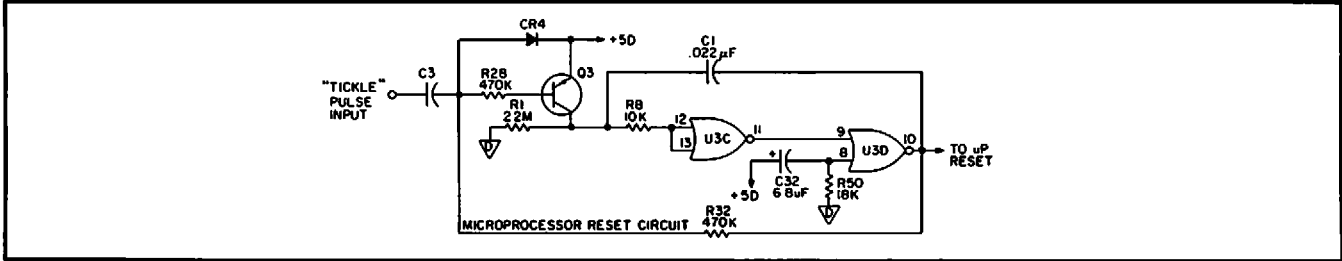

Figure 2-16
2.3.4 Microprocessor Reset "Tickle" Circuit (Fig. 2-16)